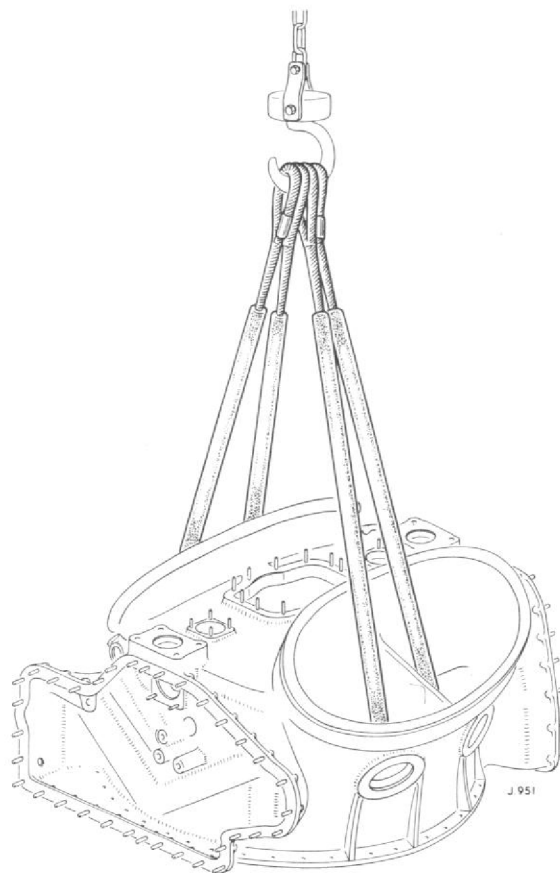

Fig. 24. Lifting the air-intake casing by means of sling T.70454.
5. Attach lifting sling T.70454 to the front of the air-intake; engage the hook of the lifting gear with the sling and lift the air-intake away from the diffuser casing, Fig. 24, and place it on a flat surface.